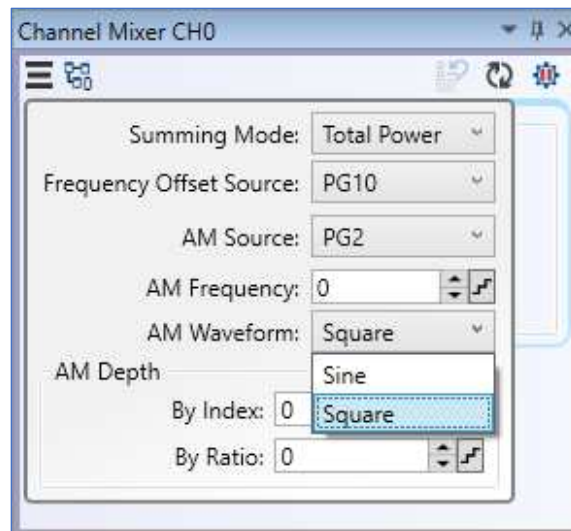

Figure 197: AM Waveform, Drop Down Menu
- AM Waveform - Sets the AM modulation waveform to either a sine or square wave, as shown in Figure 197